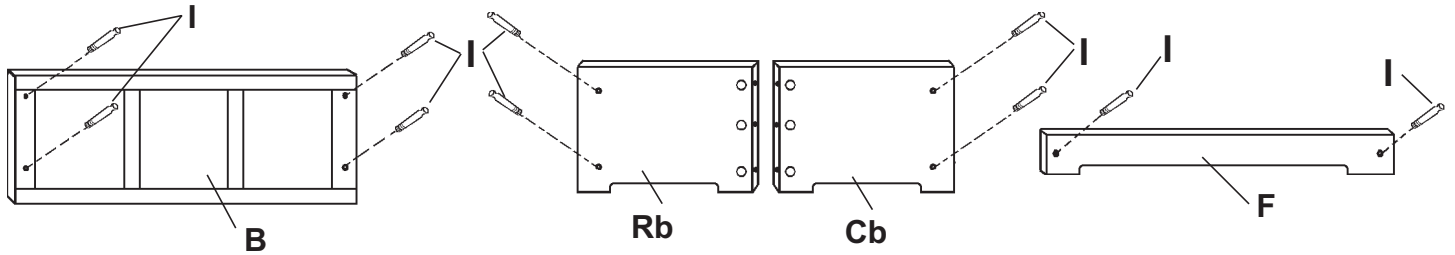

Fig. 1a
1. Install four Cam Connectors (I) in the Front Panel (B), two in each Side (Rb & Cb), and two in the Base (F). See Figure 1a.